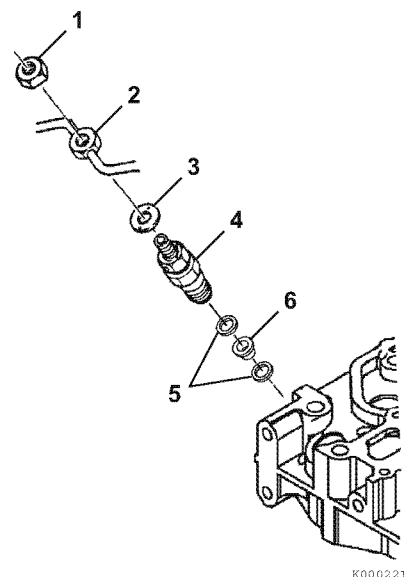

Figure 7-40
4. Remove nut (1, **Figure 7-40**). Remove the fuel return line (2, **Figure 7-40**) and copper washer (3, **Figure 7-40**) from the fuel injectors. See *Removal of Fuel Return Line* on page 7-14.
5. Remove the fuel injectors (4, **Figure 7-40**).
6. Remove the injector nozzle gaskets (5, **Figure 7-40**) and protector (6, **Figure 7-40**) from the cylinder head.